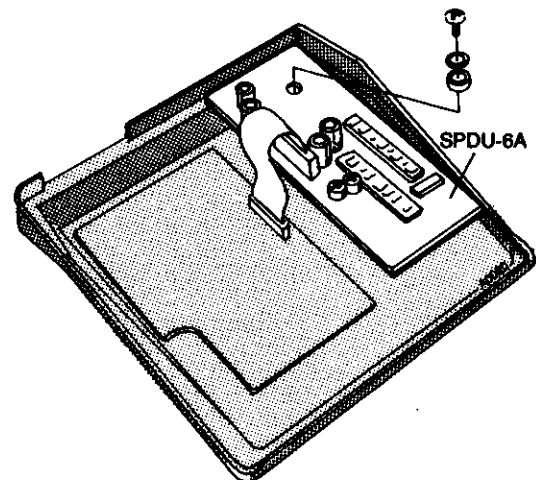

Figure 3 INSTALLING SPDU-6A PCB, EK-616
- *Insert the SPDU-6A PCB (Figure 3).*